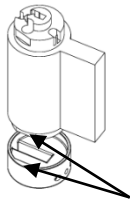

Figure 3
1. Place the Cover Plate over the end of the Cylinder. Align the flat of the Cover Plate to the flat of the Cylinder, as shown in Figure 3.